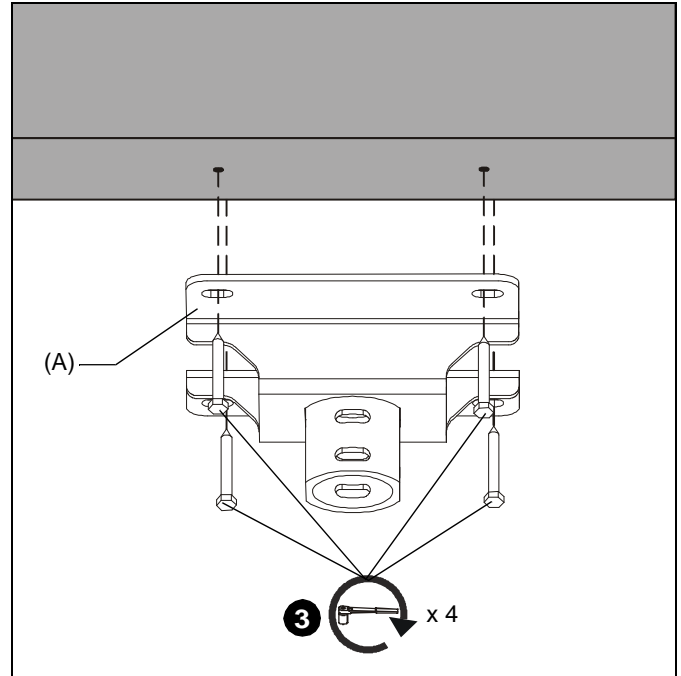
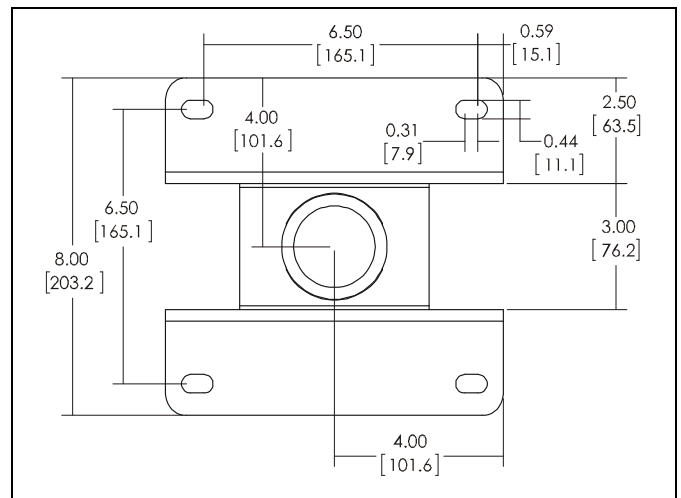

Figure 2
Figure 3
- Install and tighten four 3/8" x 2-1/2" (minimum) Grade 2 lag screws (not included) through CPA330 (A), into wood stud cross bracing. (See Figure 2) (See Figure 3) for dimensions details.
- Secure the threaded rods to the CPA mount with ASTM A307 or better 3/8" jam nuts (not provided) and washers (one of each on inside and one of each on outside--not provided). (See Figure 3) for dimensions details.
1. Use four UX10 anchors (not provided) to secure CPA mount into solid concrete ceiling. (See Figure 3) for dimensions details.